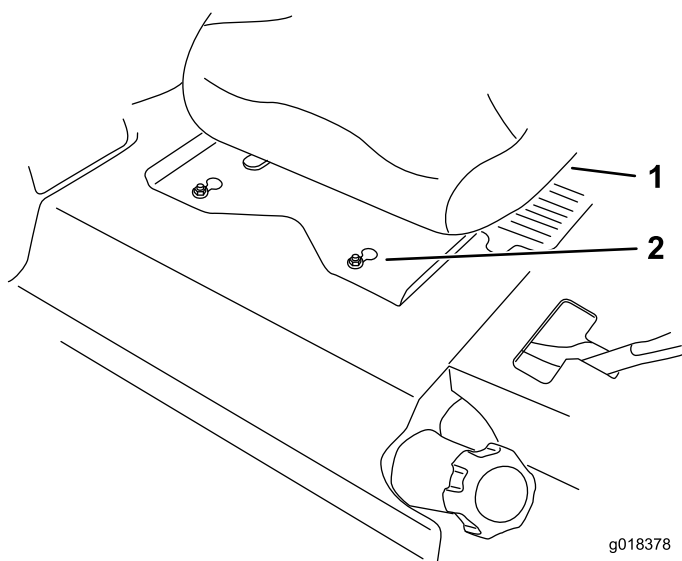

Figure 62
7. Slide the seat and seat plate forward to allow the front nuts to go through the key hole (Figure 62).